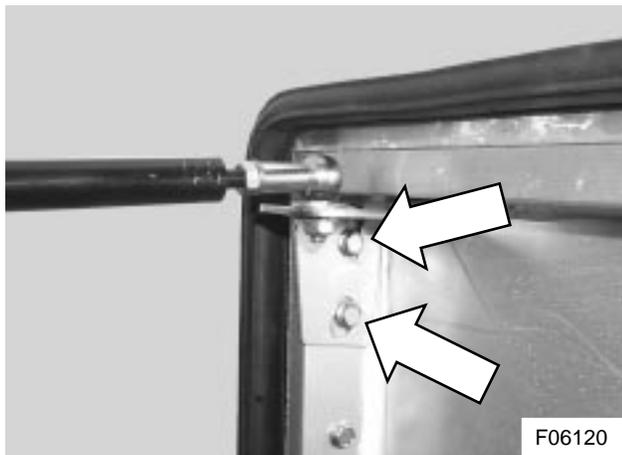

Figure 34: Tie rod mounting bracket bolts
- 2) Undo and remove the bolts securing the tie rod mounting bracket to the door (see Figure 34, page 27).
- 5) Install the new tie rod, the ball joints positioned as shown in Figures 34 and 35, page 28. The spring loaded end of the tie rod should be pointing to the coach mounting bracket. Tighten ball joint nuts to a torque of 6.5 ft.lbf (9 Nm).